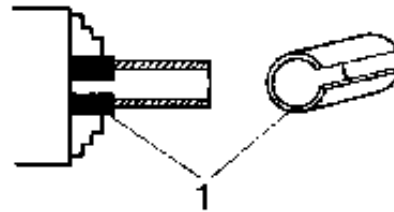

Figure 25 Clamping in clamping bushes
- When chucking thin-walled parts, the chucking pressure must be selected so as to avoid any deformation of the part. For this purpose, clamping bushes as per Fig. 25 may be used.